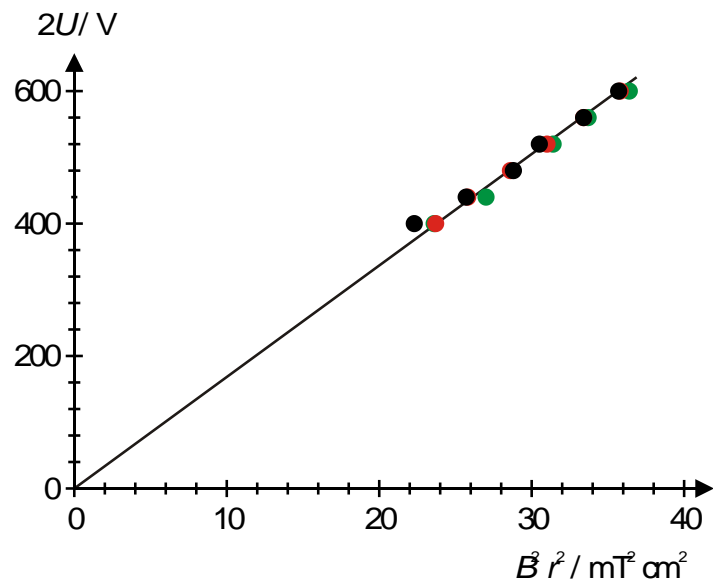

Fig. 3 Graph of  $r^2 B^2$  against  $2U$  for values as measured (black:  $r = 5$  cm, red:  $r = 4$  cm, green:  $r = 3$  cm)
- For further evaluation, plot the measured values in a graph of  $r^2 B^2$  against  $2U$  (see Fig. 3).